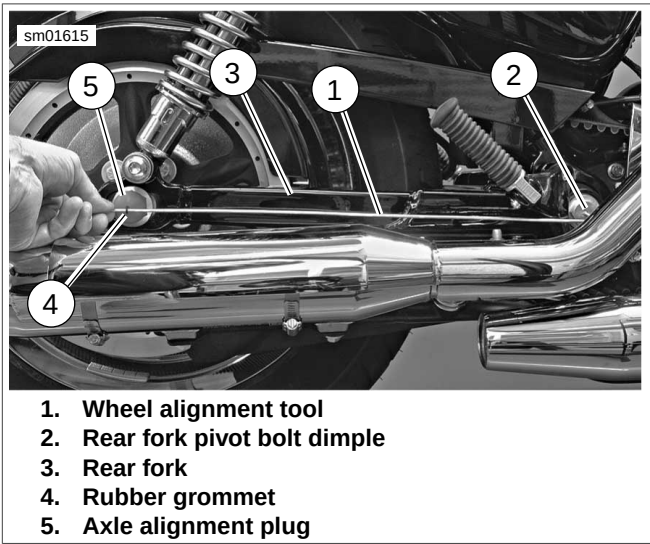

Figure 1-62. Checking Wheel Alignment Using Wheel Alignment Tool (XL Models Shown)
- 4. Figure 1-62. Insert blunt point of alignment tool in rear fork pivot bolt dimple (2) on right side of rear fork (3). Slide rubber grommet along tool shaft until it aligns with hole in center of alignment plug (5). Measure distance from pointed end of alignment tool to grommet. Repeat measurement for left side of rear fork.